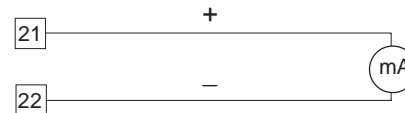

Fig. 5.5
- Connect the instrument as shown in Fig. 5.5.